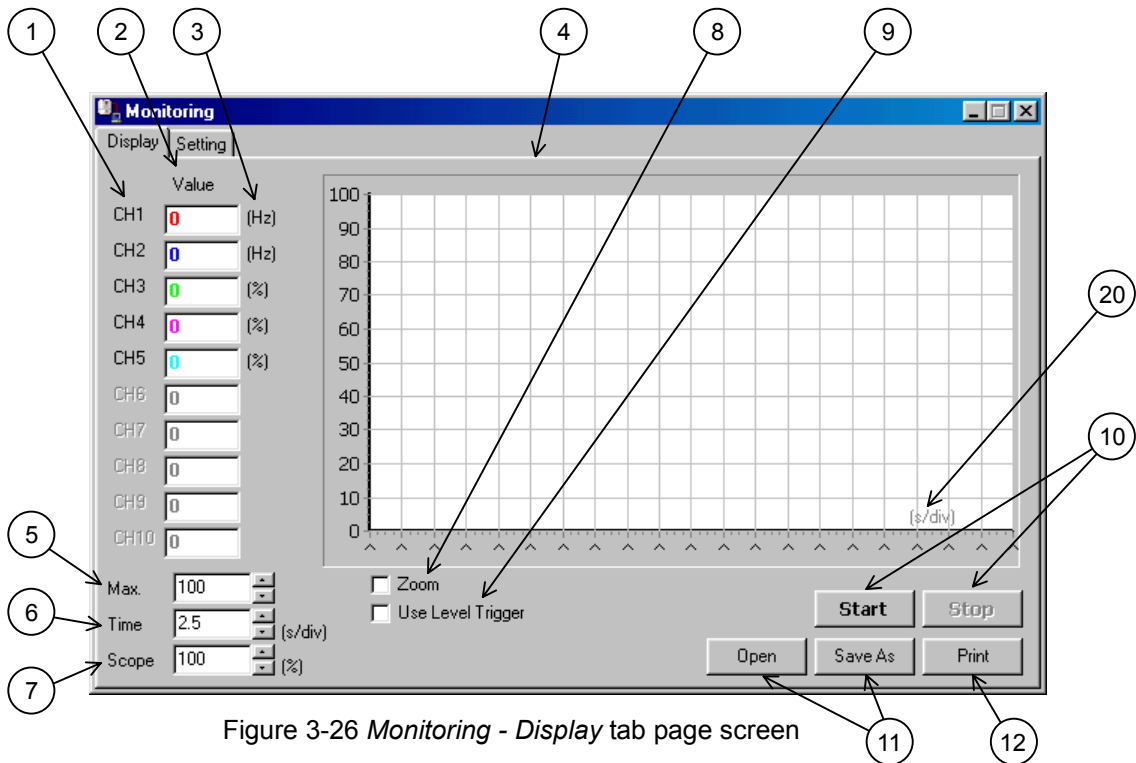

Figure 3-26 Monitoring - Display tab page screen
Trigger level can be set dragging the trigger level marker (5) with the mouse, or is set up using "Trigger Setting" - "Level (figure 3-26 (19))".